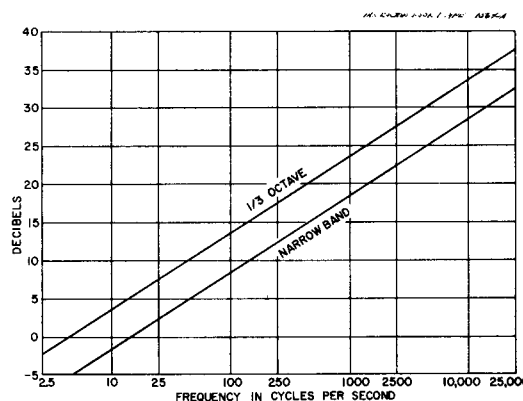

Figure 12. Decibels to Be Subtracted from Type 1564-A Reading to Obtain Spectral-Density Level.
**3.3 CONNECTION TO POWER SUPPLY.** Connect the Type 1390-B to a source of power as indicated by the legend at the input socket at the rear of the instrument, using the power cord provided. While instruments are normally supplied for 115-volt operation, the power transformer can be reconnected for 230-volt service (see schematic diagram, Figure 12). When changing connections, be sure to replace line fuses with those of current rating for the new input voltage (refer to Parts List). Appropriate measures should be taken so that the legend indicates the new input voltage. On instruments changed from 230 to 115 volts, this simply means removal of the 230-v nameplate; a 115-v legend is marked beneath. For instruments changed to 230 volts, a nameplate (Type 5590-1664) may be ordered from General Radio.
The effective bandwidth of the Type 1564-A Sound and Vibration Analyzer increases with increase in the frequency to which the analyzer is tuned. The graph in Figure 12 shows the value in decibels that must be subtracted from the reading of the analyzer to obtain the spectral-density level. This value is determined on the basis of initial calibration of the instrument by a sine-wave signal.